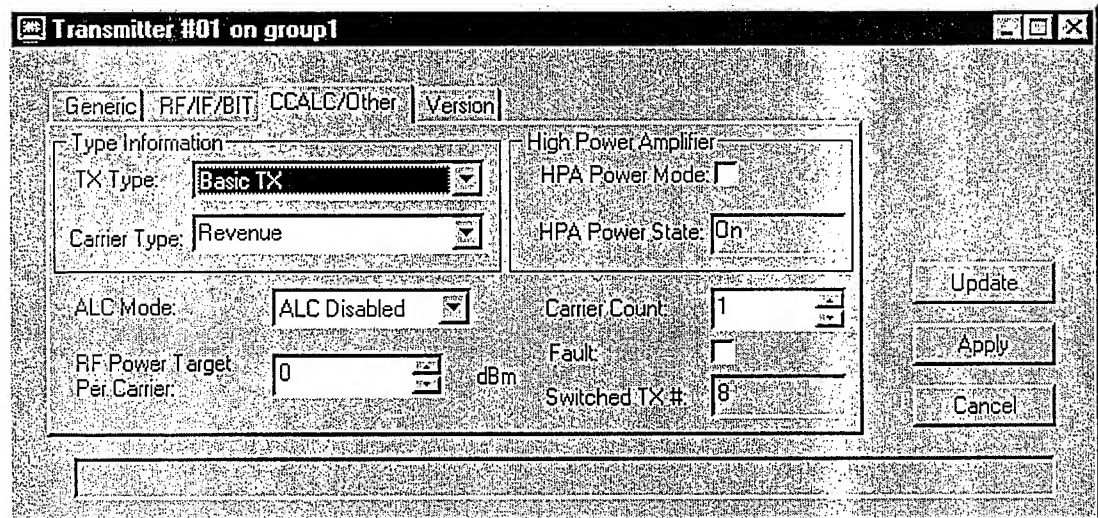

Figure 19. Solid State Transmitter CCALC/Other Tab
3. Select the CCALC/Other tab (see Figure 19).